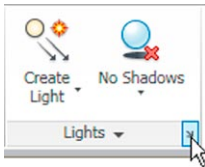
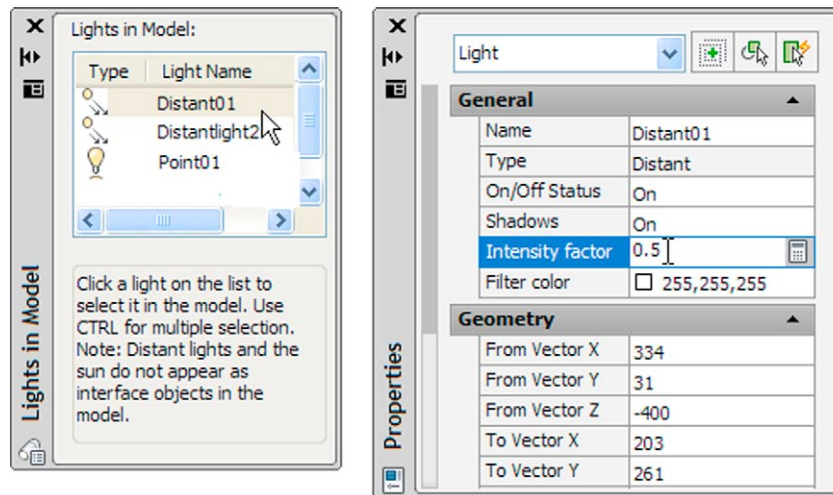

Fig. 15.24 The arrow at the bottom of the **Render/Lights** panel
Fig. 15.25 The **Lights in Model** and **Properties** palettes
7. When the model has been rendered if a light requires to be changed in intensity, shadow, position or colour, *click* the arrow at the bottom right-hand corner of the **Render/Lights** panel (**Fig. 15.24**) and the **Lights in Model** palette appears (**Fig. 15.25**). *Double-click* a light name in the palette and the **Properties** palette for the elected light appears into which modifications can be made (**Fig. 15.25**). Amendments can be made as thought necessary.